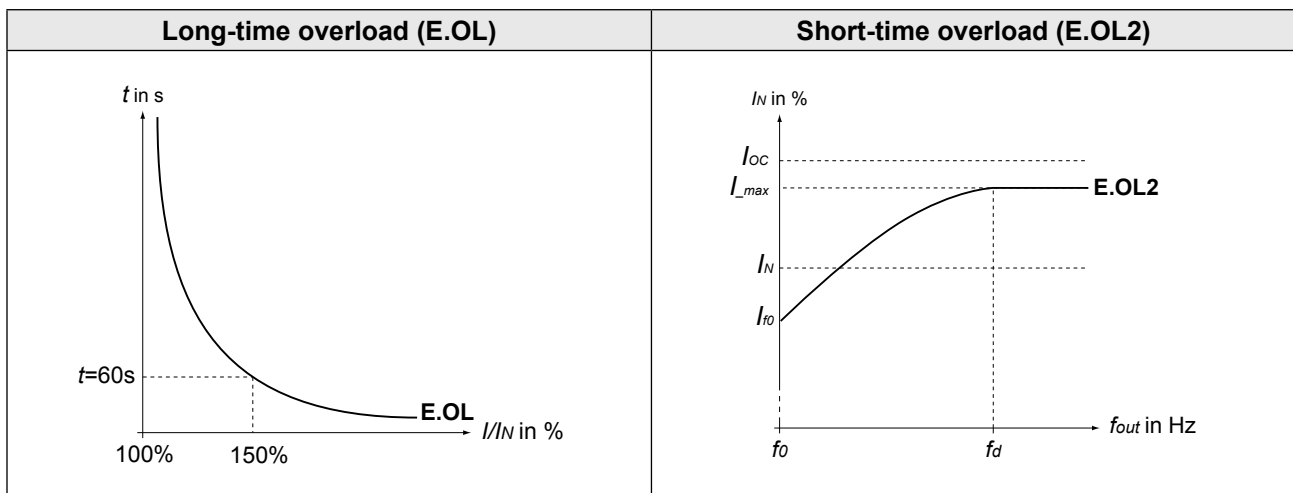

Figure 1: Overload characteristic (E.OL, E.OL2)
- At low output frequencies or switching frequencies higher than the rated switching frequency, the maximum current (10Hz/16Hz) can be exceeded before and error OL2 can be triggered, => „Figure 1: Overload characteristic (E.OL, E.OL2)“.